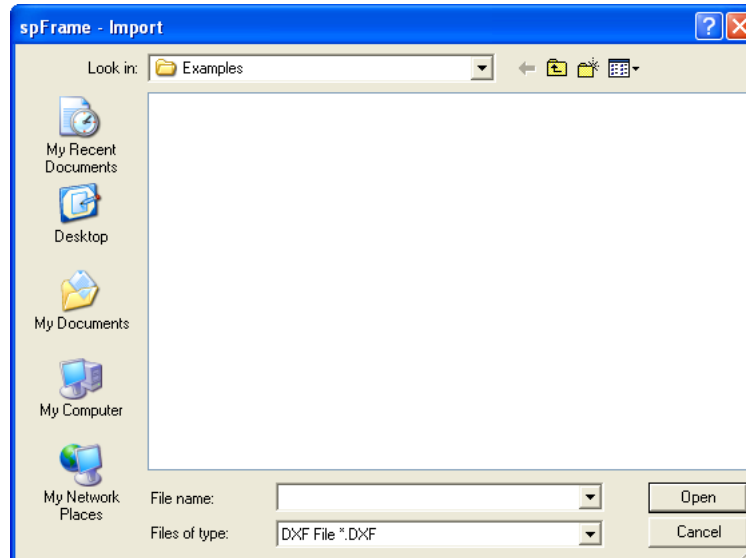

Figure 3-4 Import dialog box
- From the **File** menu, select **Import**. The dialog box of Figure 3-4 appears.